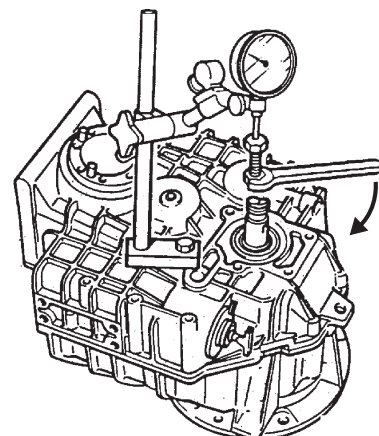

FIG. 5-5b
- e) Adjust the dial indicator needle on top of the bolt head, and "0" indicator (Fig. 5-5b)
- f) Screw hexagon nut carefully against housing flange until bearing clearance is overcome (Fig. 5-5b).